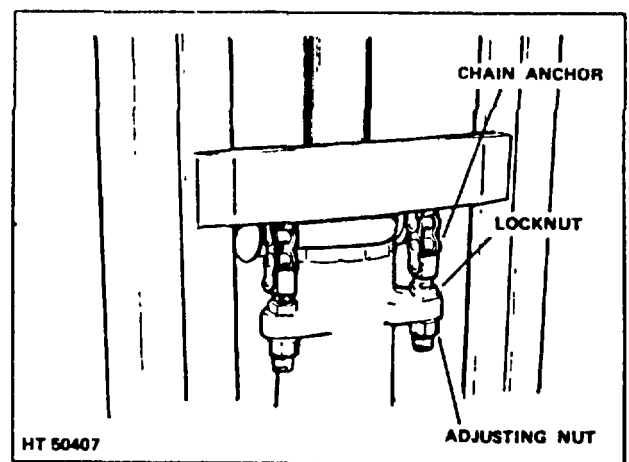

Figure 7. Chain Adjustment (on cylinder)
2. Loosen chain anchor locknuts (Figure 7).